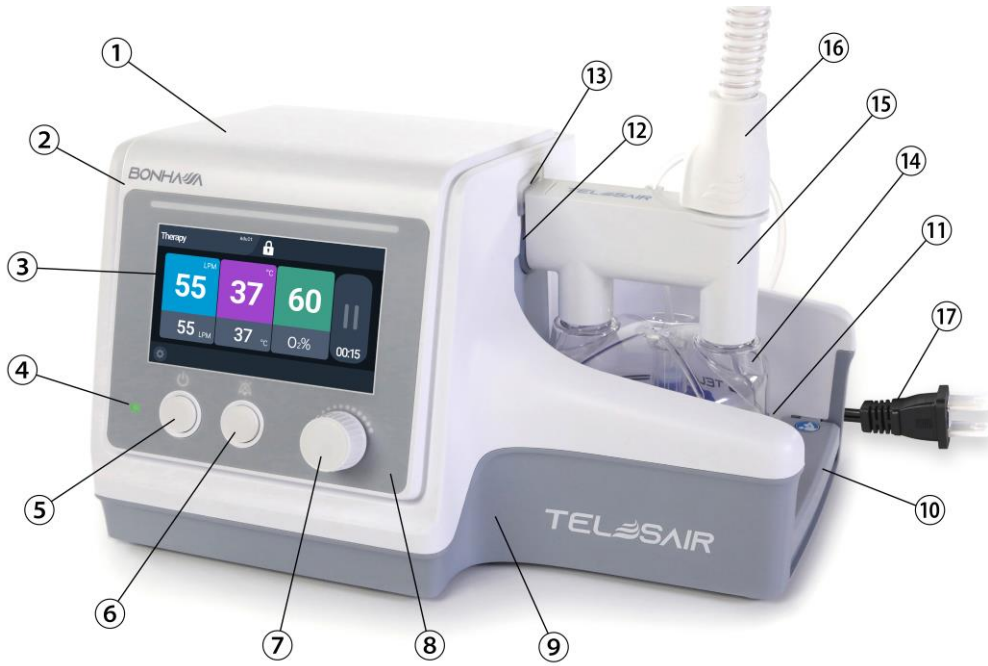

Figure 9-3 Component Diagram of Bonhawa Respiratory Humidifier, Front View
4. Press the finger guard of the device and slide the heated breathing set into the water chamber adaptor interface (13 in Figure 9-3) until the finger guard clicks into place.